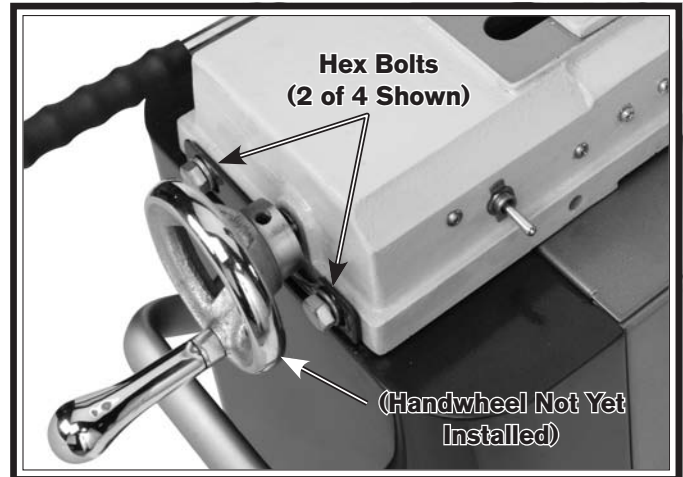

Figure 15. Mounting bandsaw to stand.
11. Secure the bandsaw to the stand with four M12-1.75 x 25 hex bolts and 12mm flat washers, as shown in **Figure 15**.